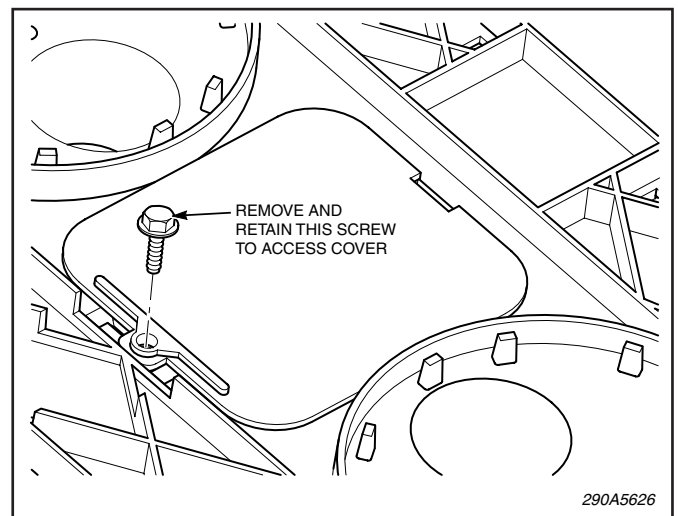

Figure 2.
1. The permanent mount LED Highlighter is provided with 18" of lead wire or 15 feet of cable, pre-installed. This may have to be spliced into the harness using installer supplied terminals. There is the option of running an intact wire into the unit to avoid leaving a splice exposed. See figure 2. Remove the screw securing